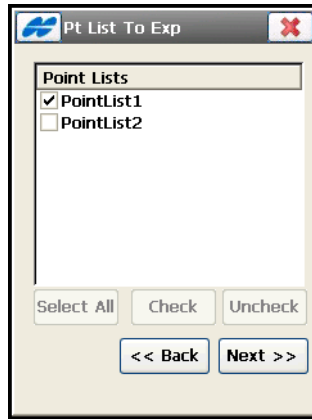

Figure 5-24. Select Point List(s) to Export
9. In the *Point List(s) to Export* screen select the point lists to export (Figure 5-24).